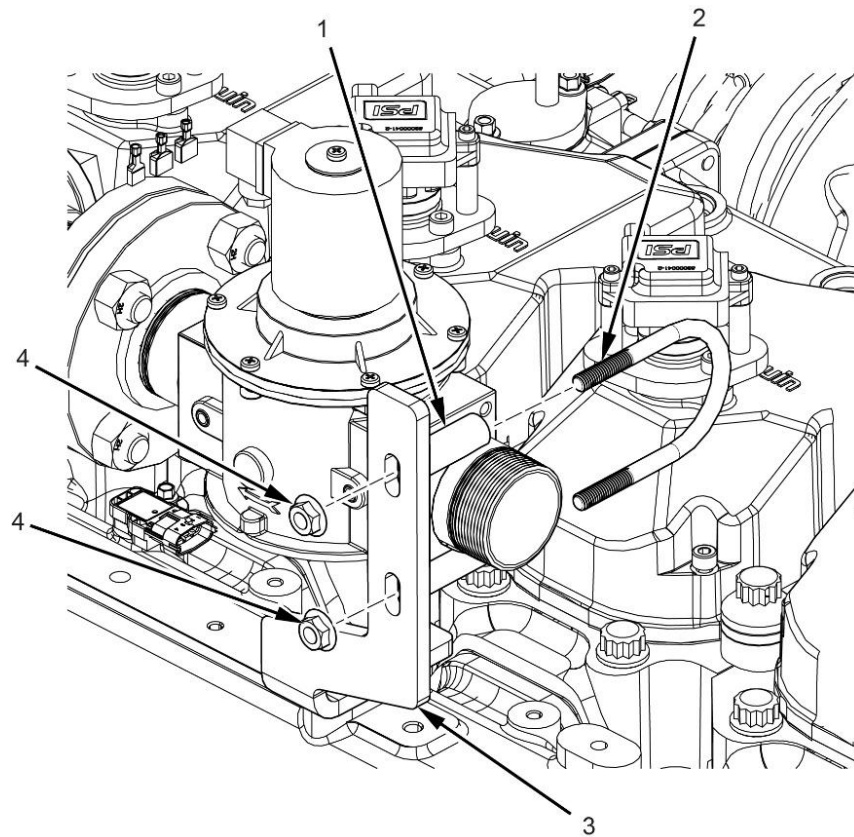

Figure 31. Upper Lock off Bracket Assembly
8. Remove nuts (Figure 31, Item 4) from U-bolt (Figure 31, Item 2). Remove U-bolt (Figure 31, Item 2) from bracket (Figure 31, Item 3).
9. Remove saddle (Figure 31, Item 1) from bracket (Figure 31, Item 3).
3. Install saddle (Figure 31, Item 1) to bracket (Figure 31, Item 3).
4. Install U-bolt (Figure 31, Item 2) to saddle (Figure 31, Item 1) and bracket (Figure 31, Item 3) and nuts (Figure 31, Item 4).